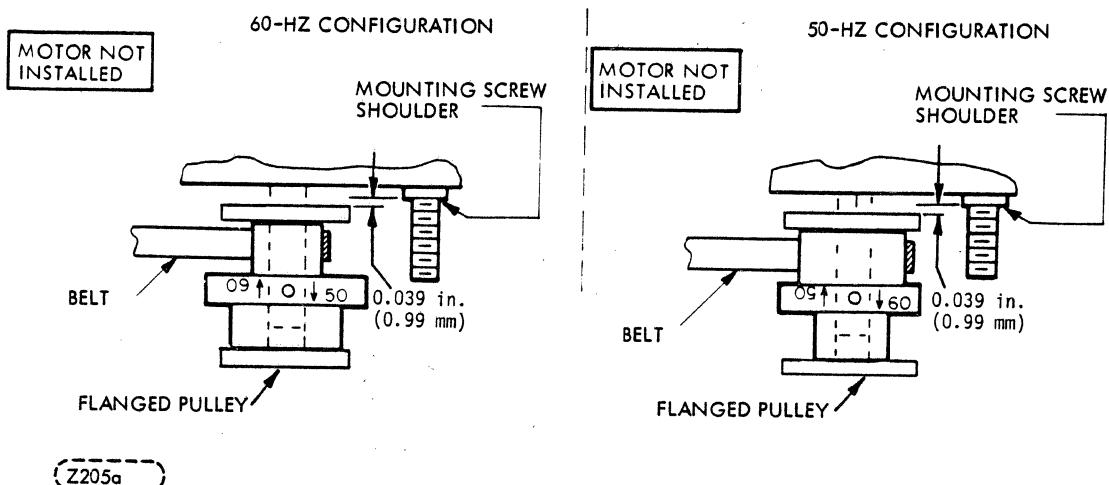

FIGURE 6-13. DRIVE-PULLEY REVERSAL
- f. Position pulley allowing tolerance of 0.039 in. (0.99mm) ± 0.10 in. (0.254 mm) between shoulder of motor mounting screws and pulley (Figure 6-13).